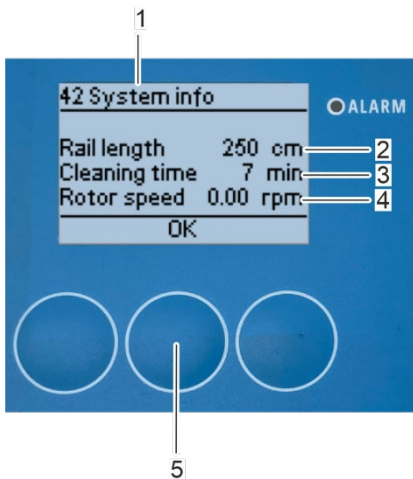
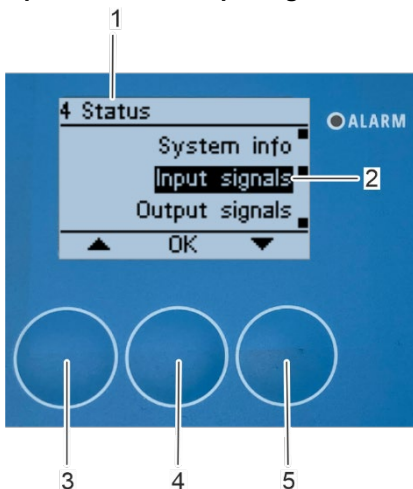

Fig. 175: Submenu "System info"
Fig. 176: Open submenu "Input signals"
⇒ The "42 System info" submenu appears on the display (Fig. 175/1) showing the values "Rail length" (Fig. 175/2), "Cleaning time" (Fig. 175/3) and "Rotor speed" (Fig. 175/4).
3. Press [OK] (Fig. 175/5) to return to the submenu "4 Status" (Fig. 176/1).
⇒ The "4 Status" submenu (Fig. 176/1) appears on the display.
1. Select the "Input signals" submenu (Fig. 176/2) with the arrow keys [up] (Fig. 176/3) and [down] (Fig. 176/5).
2. Confirm the selection with [OK] (Fig. 176/4).